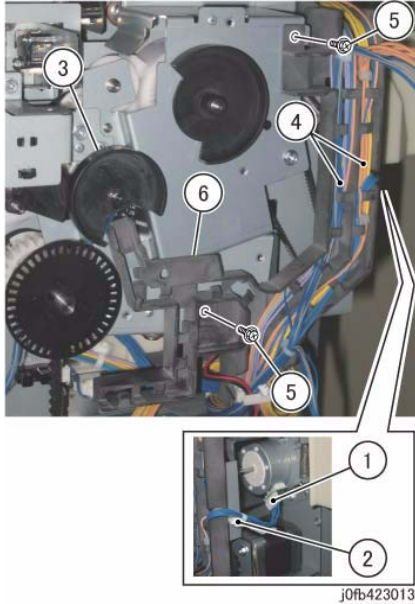

Figure 6 Harness Guide
9. Remove the Harness Guide. (Figure 6)